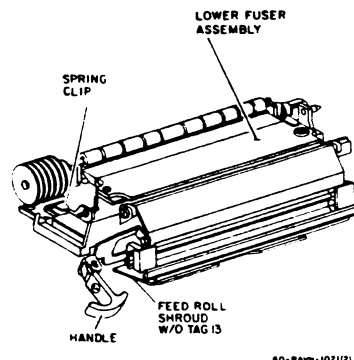

Figure 1. Removing the Lower Fuser
3. RELEASE THE LOWER FUSER ASSEMBLY FROM THE SLIDE ASSEMBLY BY PUSHING DOWN ON THE SPRING CLIP (FIGURE 1).